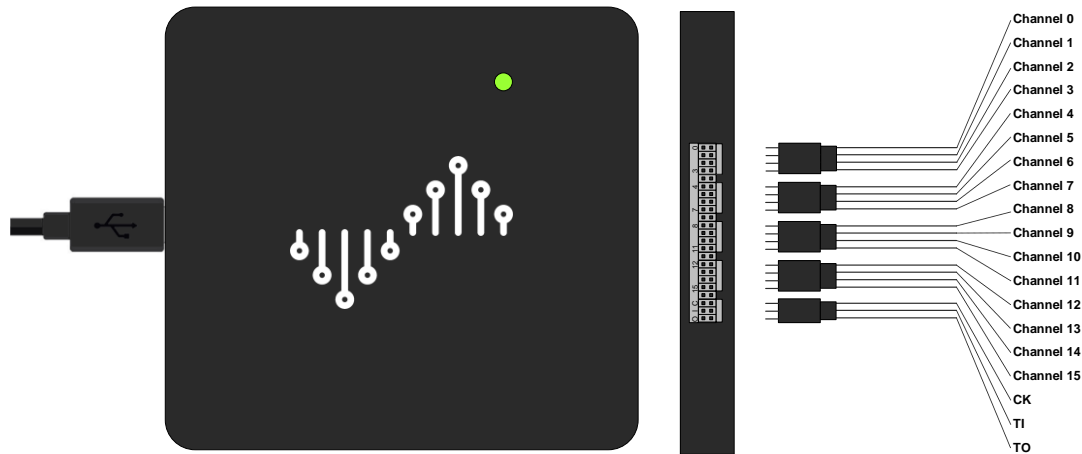

Figure 2-3
- 3) Connect the fly wires to the sampling ports of the logic analyzer. Figure 2-3 shows the correspondence between the fly wires and the channels. Each channel has a shielded fly wire that is divided into signal and ground ports at the end. The colored wires correspond to channels 0-15. Additionally, one fly wire includes CK, TI, and TO signals, which are generally not required to be connected. The CK channel serves as the clock input for state sampling, allowing an external clock to be used as the sampling clock. TI is the input for an external trigger signal, and TO is the output for the trigger signal, which generates a pulse when the triggering condition is met during the sampling process.